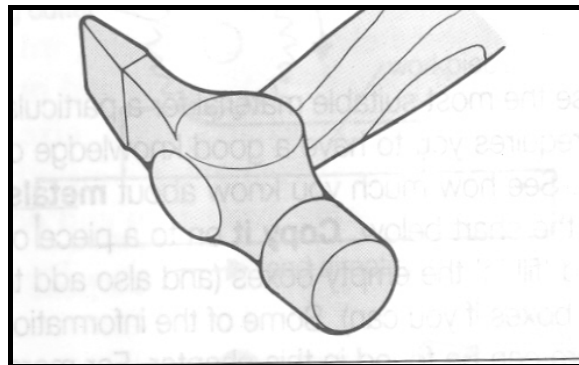

FIGURE 4.2
4.3 FIGURE 4.2 shows a hammer head. Answer the questions that follow.